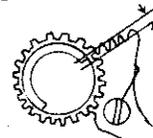

Fig. 6
- 4-4. Check the operation of MX fly wheel (196) and MX delay action gear (197).
- 4-4-1. When Cocking lever (169) is set, the extended line of the cut part of MX delay action gear should coincide with the center line of teeth of Sector gear (188). (Fig. 6)